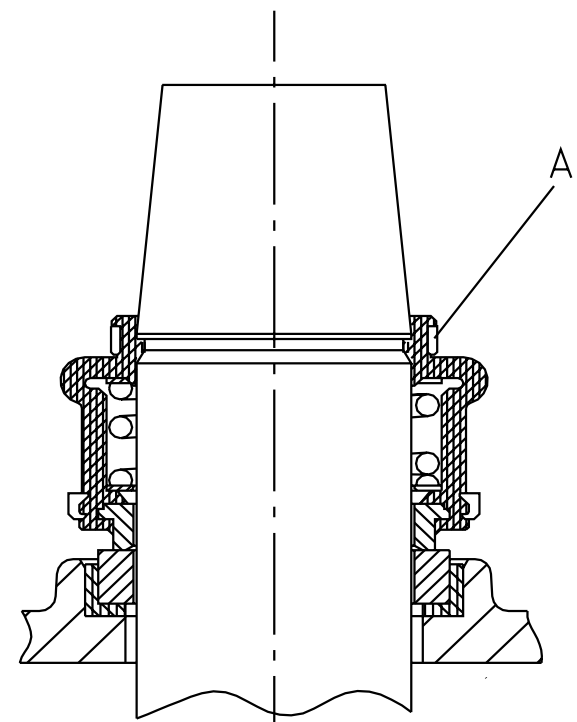

Fig. 14
b) Rubber-bellows seal, internal spring - type "M" (Fig. 14)